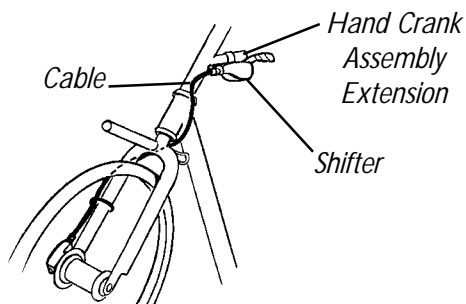

FIGURE 2 - SEVEN (7) SPEED SHIFTER CABLE INSTALLATION
SEVEN (7) SPEED SHIFTER CABLE INSTALLATION (FIGURE 2)